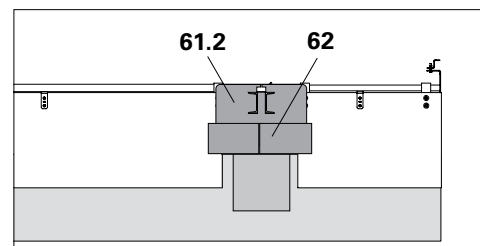

Fig. B4.02c
Close remaining gaps with Cover Mat LPS 41 x 66 (61.2) and Cover Strip LPS 20 x 108 (62). (Fig. B4.02c)